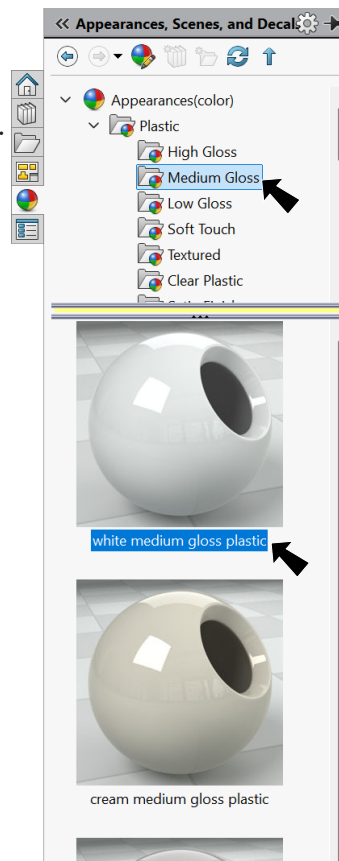

Fig. 69
Step 2. In the Appearances Task pane, expand **Plastic**, click **Medium Gloss** and in the lower pane select **white medium gloss plastic**, Fig. 69.